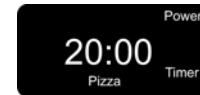

Fig. 14
4. Set the time by pressing the "Increase/Decrease" button. We recommend that you set the time according to package instructions. (Fig. 14)